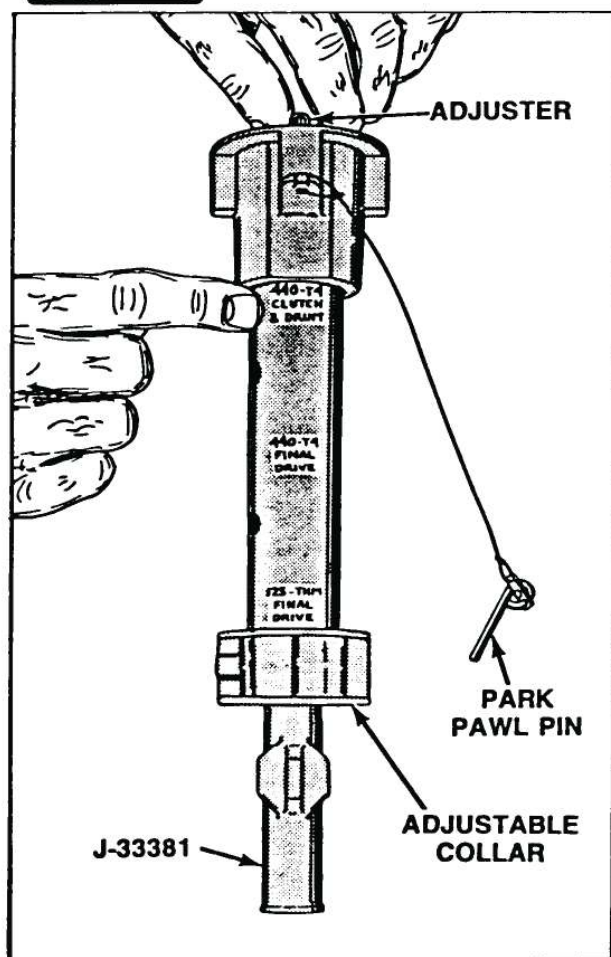

Figure 55
2. Install J-33381 into input housing shaft and tighten adjusting screw at top. (See Figure 55)